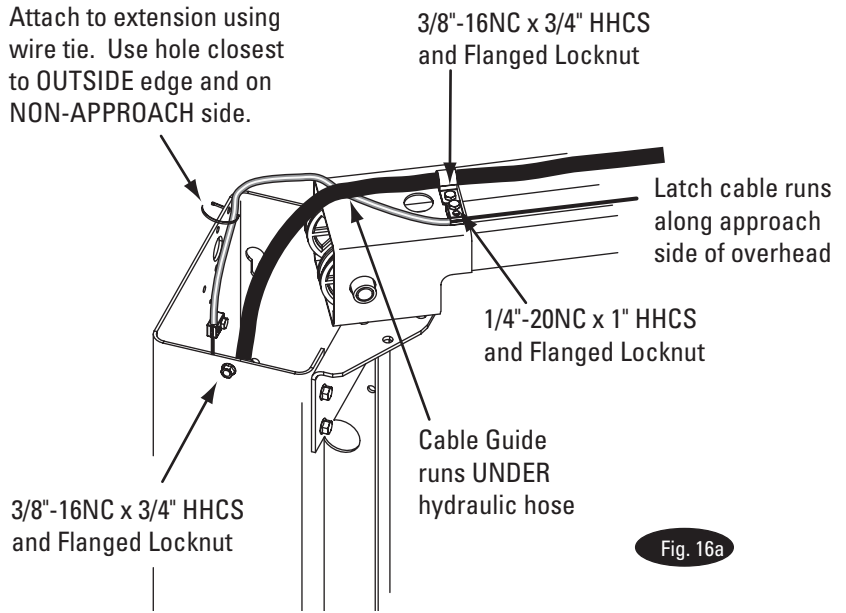
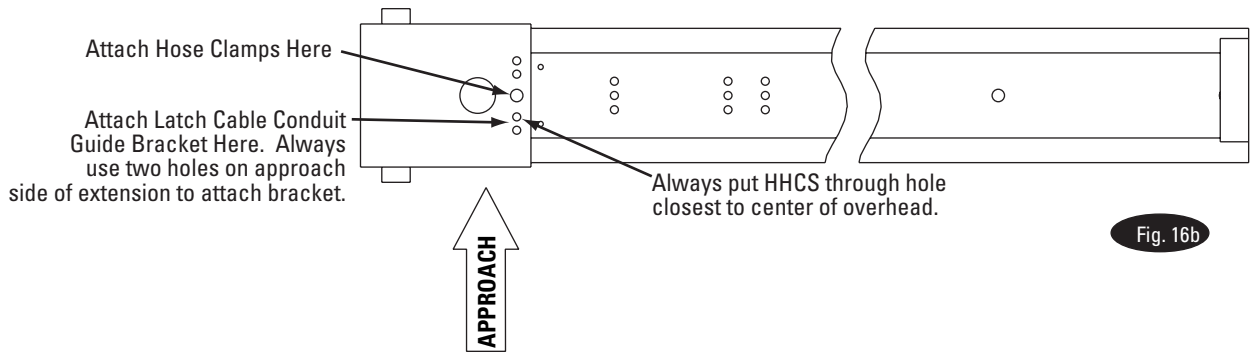
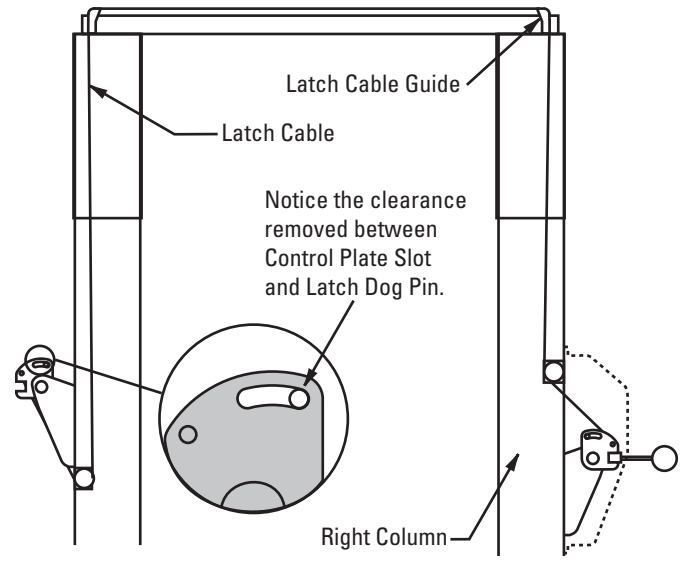
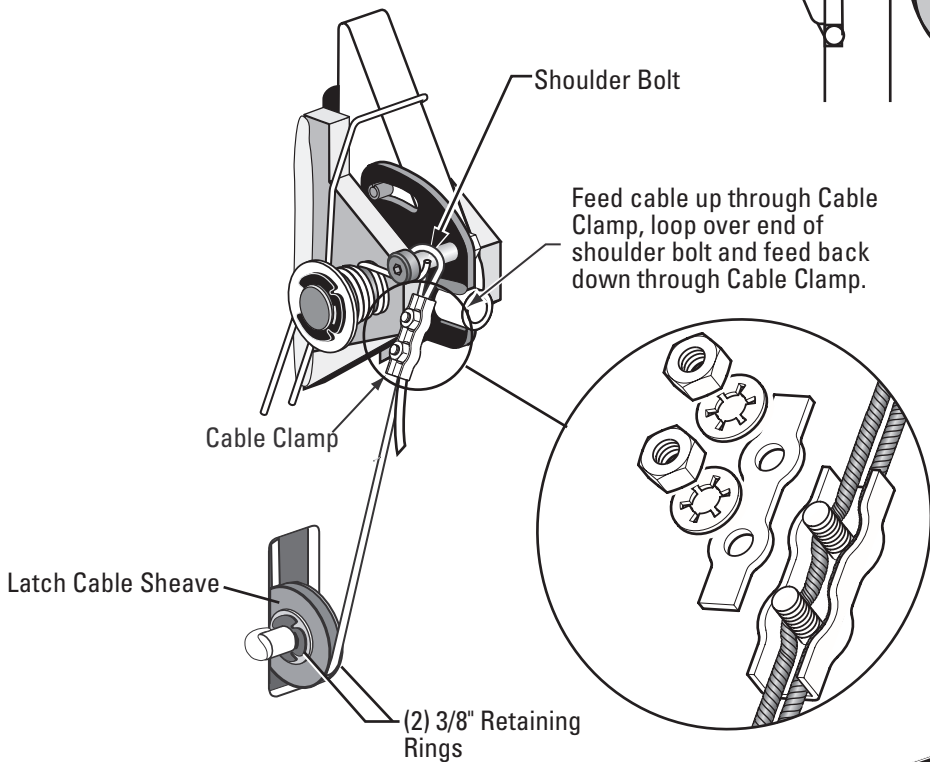

Fig. 16a
Fig. 16b
Fig. 18
Fig. 19
NOTE: Route Power Unit hose inside columns using slots provided at column base, Fig. 14. Route Overhead Hose in column channel on outside of column, Fig. 14. Overhead hose goes over top end of overhead assembly, Fig. 12 & Fig. 16a & Fig. 16b.
- D) Attach latch cable conduit guide brackets to overhead as shown, Fig. 16a & Fig. 16b. Always use the holes on the approach side of the lift. HHCS should be in hole nearest the center of the overhead, Fig. 16b.
- E) Route cable up inside column and through the latch cable guide, Fig. 16a & Fig. 18.
IMPORTANT Using wire ties provided, tie off cable guide to column extension as shown, Fig. 16a. Guide must be attached in hole closest to the outside edge of the column on the NON-APPROACH side.
- F) Continue routing cable to the left column latch cable guide, Fig. 16a & Fig. 18, routing the cable through the left column latch cable guide, Fig. 16a.
- G) Bring the cable down inside the left column and feed the end of the cable through the lower latch cable sheave slot so that the cable is now back outside the column, Fig. 19.
- H) Install latch cable sheave and retaining rings in lower slot of non-power unit column as shown, Fig. 19.
- K) Insert cable in cable clamp along one side, loop around shoulder screw and back down, inserting cable along other side of cable clamp, Fig. 19. Place top back on clamp, barely tightening.
- L) Next, pull the control plate down, Fig. 18 & Fig. 19, to eliminate any clearance between the control plate slot and the latch dog pin, Fig. 18.